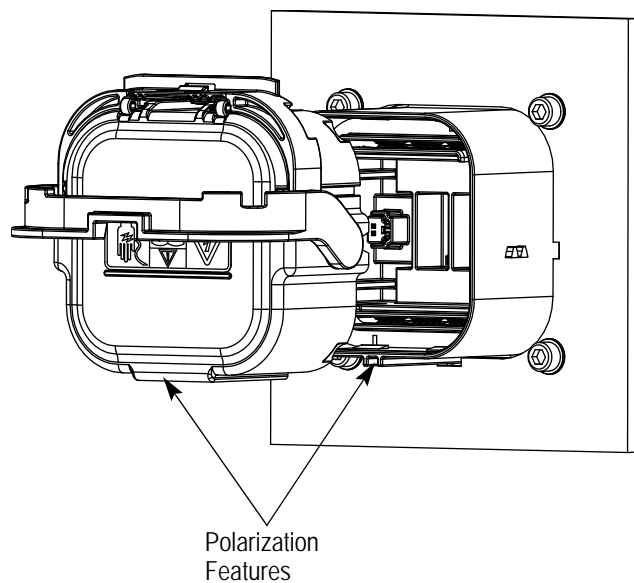

Figure 2
1. Identify the polarization feature that is located on the walls of the MSD receptacle outer housing as shown in Figure 2.
3. Line up the polarization features on the MSD receptacle outer housing with the mating polarization feature on the plug assembly as shown in Figure 2.
4. Manually install the MSD plug assembly into the receptacle mounting interface, making sure that the polarization features are aligned correctly as shown in Figures 2 and 3. This is the pre-lock position, which flexes the passive latches of the lever release outwards so that the lever can be released from the pre-staged position. If the plug assembly and receptacle mounting interface do not fit together easily, check the following: